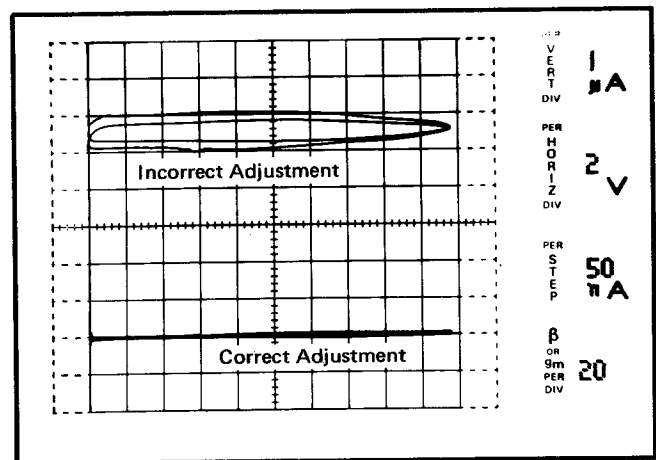

Fig. 2-9. Adjustment of LOOPING COMPENSATION control.
38. Adjust the LOOPING COMPENSATION control for minimum trace width (see Fig. 2-9).